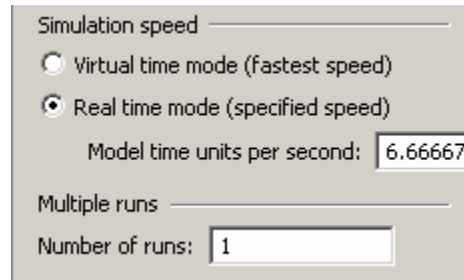

Figure 153. Simulation speed and Multiple runs experiment's properties
- Specify the model simulation speed in the *Simulation speed* section of the *Additional* page of the Properties window (see Figure 153).
2. Type the number of model replications in the *Number of runs* edit box in the *Multiple runs* section of the *General* page of the Properties window (see Figure 153).